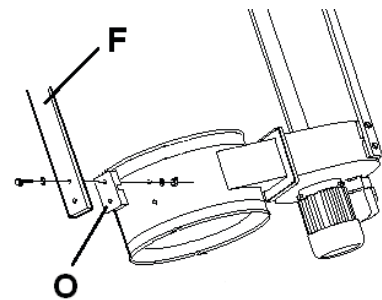

Fig 5.
4. Attach 2 legs and handle to bag support: Place plastic spacers (O, Fig 5) between bag support and legs.